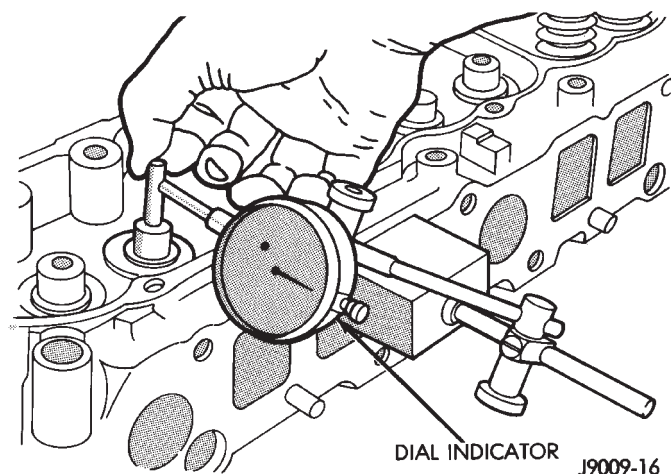

Fig. 69 Measurement of Lateral Movement Of Valve Stem
(1) Use a dial indicator to measure the lateral movement of the valve stem (stem-to-guide clearance). This must be done with the valve installed in its guide and just off the valve seat (Fig. 69).
(2) Correct clearance is 0.025-0.0762 mm (0.001-0.003 inch). If indicated movement exceeds the specification ream the valve guide to accommodate an oversize valve stem.